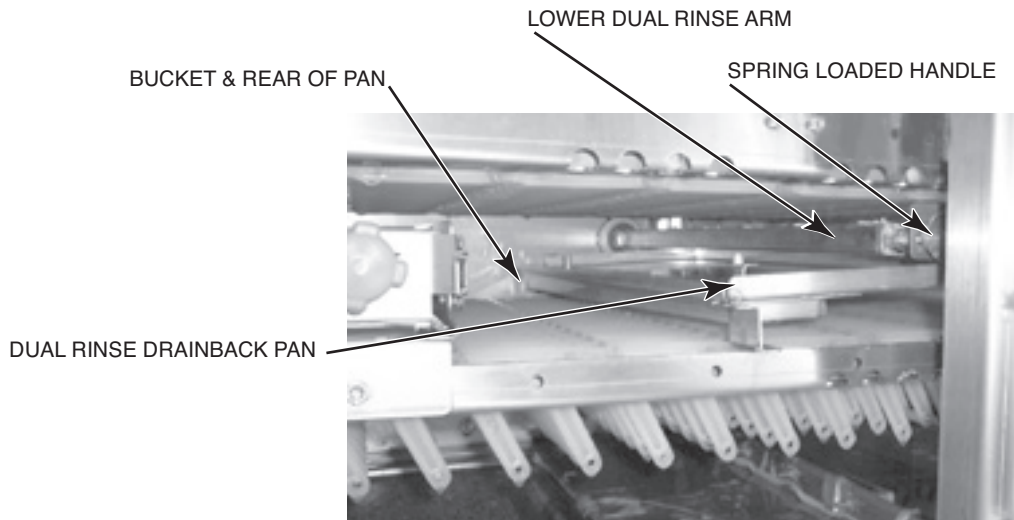

Fig. 29
4. Also check to make sure that the rear of the pan is properly seated in the flowback catch bucket (Fig. 29) (mounted to the bottom portion of the rear track).
5. Reinstall the lower dual rinse arm by pulling on the spring-loaded handle, inserting the arm into the hub and then releasing the handle (Fig. 29).